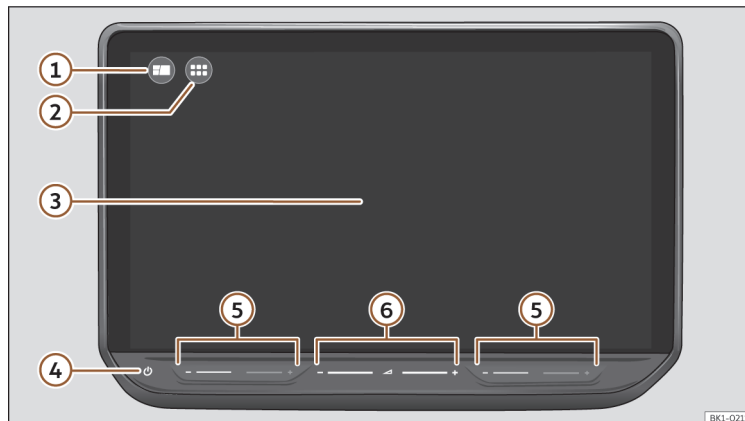

Fig. 176 Overview: control unit
Customise the top menu or the HOME >>> **Fig. 176** ① view to quickly access your favourite or most frequently used functions.